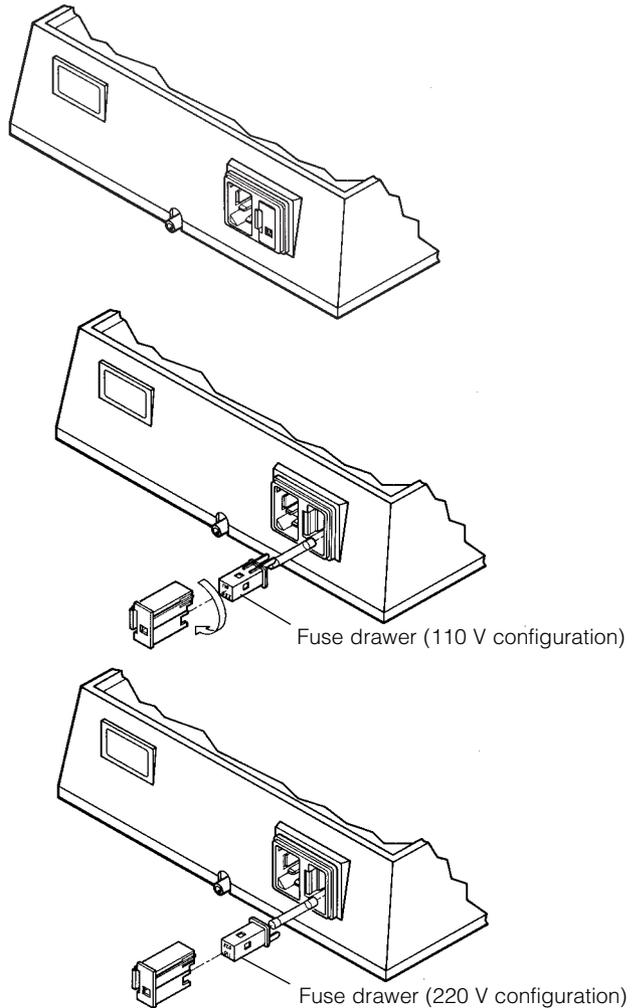

Fig. 3.1. Voltage conversion.
Prior to connecting the power cord to the power entry module and power mains, make sure the voltage indicated on the fraction collector power entry module matches your line voltage. If it does not, use the following procedure to make the conversion. (See Figure 3.1.)
3. Pull the fuse holder out of the fuse drawer and ensure that the voltage shown in the window corresponds to the voltage you are using (100, 120, 220, 240 V). To change the voltage, grasp the fuse drawer and withdraw it (see Figure 3.1). Rotate the fuse drawer so that the voltage shown is correct, and reinsert it. The fuse holder is keyed and cannot be installed improperly. The Model 2110 Fraction Collector uses 0.20 A fuses for 100/120 V operation, and 0.10 A fuses for 220/240 V operation.